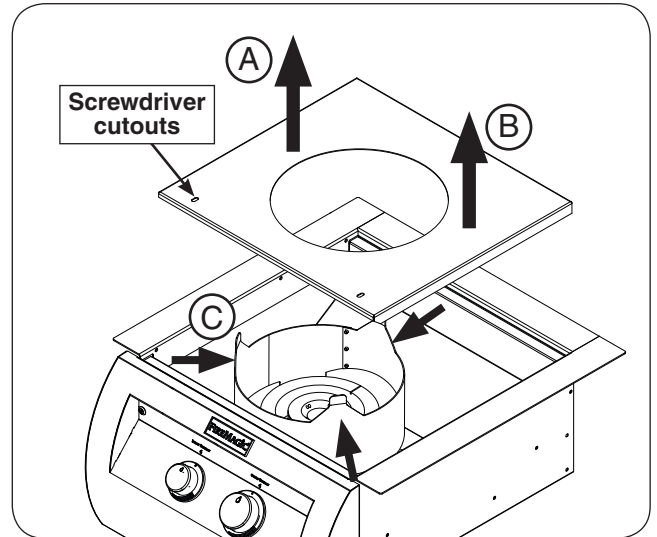

Fig. 35-1 Interior protection plate removal
2. Lift up the interior protection plate from the left side, then lift up from the right side (see Fig. 35-1, A and B).
3. While lifting the plate upward, flex the collimator inward to completely free the protection plate (see Fig. 35-1, C).